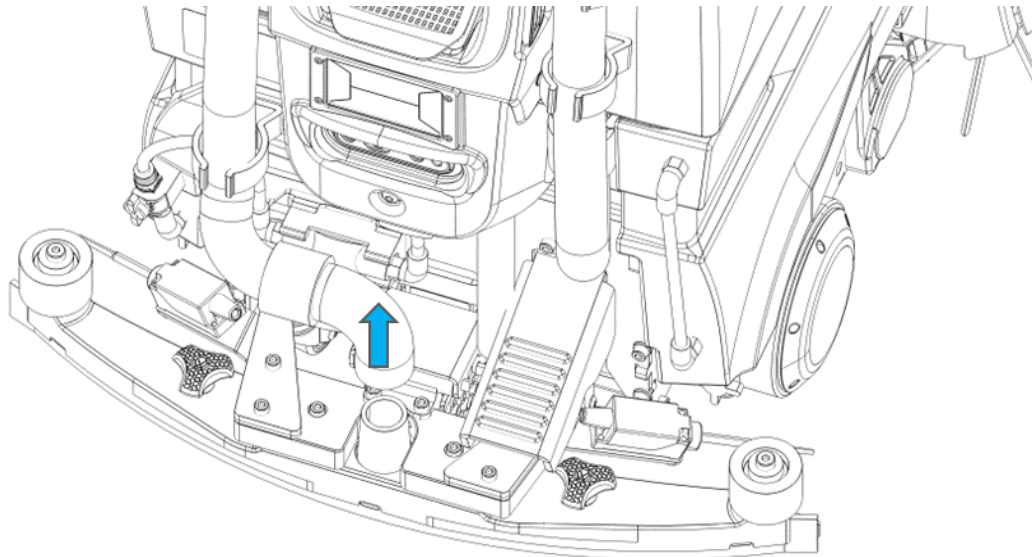

FIGURE 10-15
1. Remove the vacuum hose (Fig. 10-15), keeping a cloth handy in case of dirty water spillage.